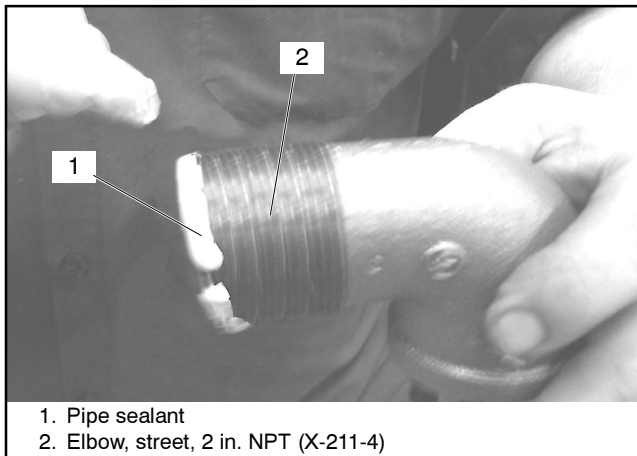

Figure 11 Vent Pipe Subassembly
- 2.2.2 Apply pipe sealant to bottom threads on 2 in. NPT street elbow X-211-4. See Figure 11.